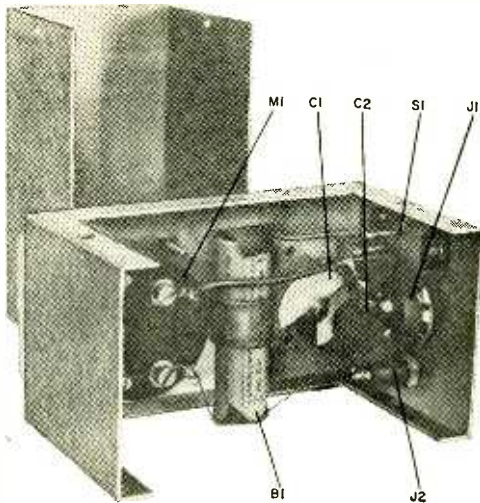

Fig. 2. When mounting components, consider clearance space required for the variable capacitor. Tape battery ends to prevent contact with metal case.
**Construction.** A 2¼" x 2¼" x 4" aluminum box (Fig. 2) houses all the components except the plug-in coils and a whip antenna. Parts can be located as shown, or in any other convenient arrangement. However, it is necessary to observe polarity of the meter and battery. A ½"-diameter plastic clamp and a right angle